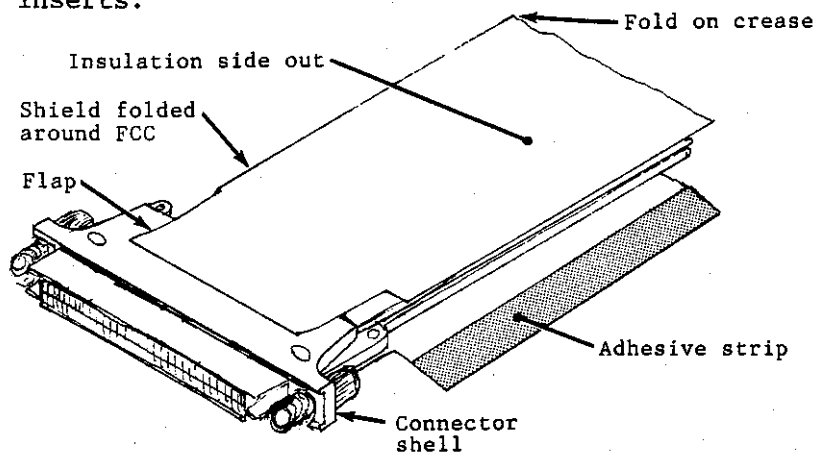

Figure 7-8. Wraparound Shield Folded Around Harness
6. Fold the shield around the harness as shown in Figure 7-8.